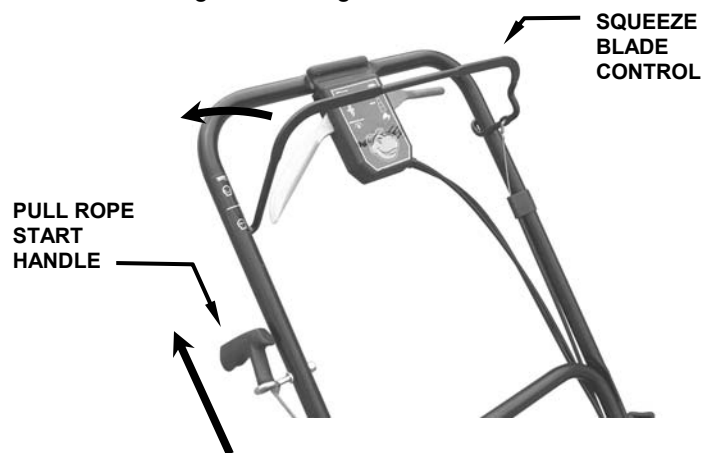

FIGURE 2.4
2. Pull blade control against handle. See Figure 2.4.
Manual Start Models: Pull rope start handle to crank engine. See Figure 2.4.